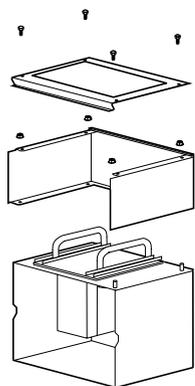
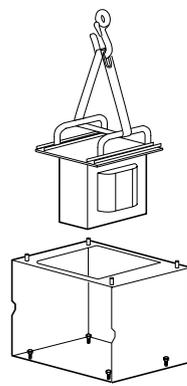

Figure 2
Figure 3
- 1 Dismantle the DC choke (figure 2) so that it can subsequently be installed, and remove the choke using a hoist (figure 3).
- 2 Remove the screws attaching the choke support to the pallet (figure 3).